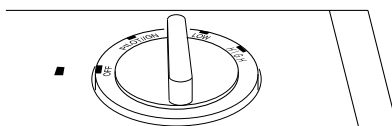

Figure 17 - Control Knob In The OFF Position (FB-10BA Shown)
3. Press in and turn control knob clockwise ↻ to the OFF position (see Figure 17).
4. Wait five (5) minutes to clear out any gas. Then smell for gas, including near the floor. If you smell gas, **STOP!** Follow "B" in the safety information, column 1. If you don't smell gas, go to the next step.
5. Press in control knob and turn counterclockwise ↻ to the PILOT/IGN position. Keep control knob pressed in for five (5) seconds.